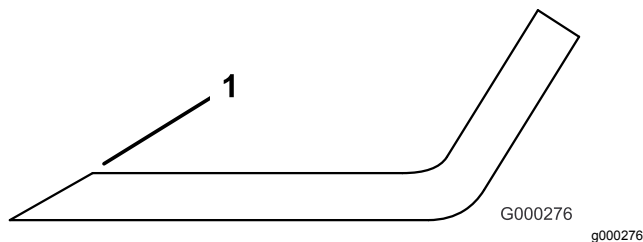

Figure 68
1. Use a file to sharpen the cutting edge at both ends of the blade (Figure 68). Maintain the original angle. The blade retains its balance if the same amount of material is removed from both cutting edges.